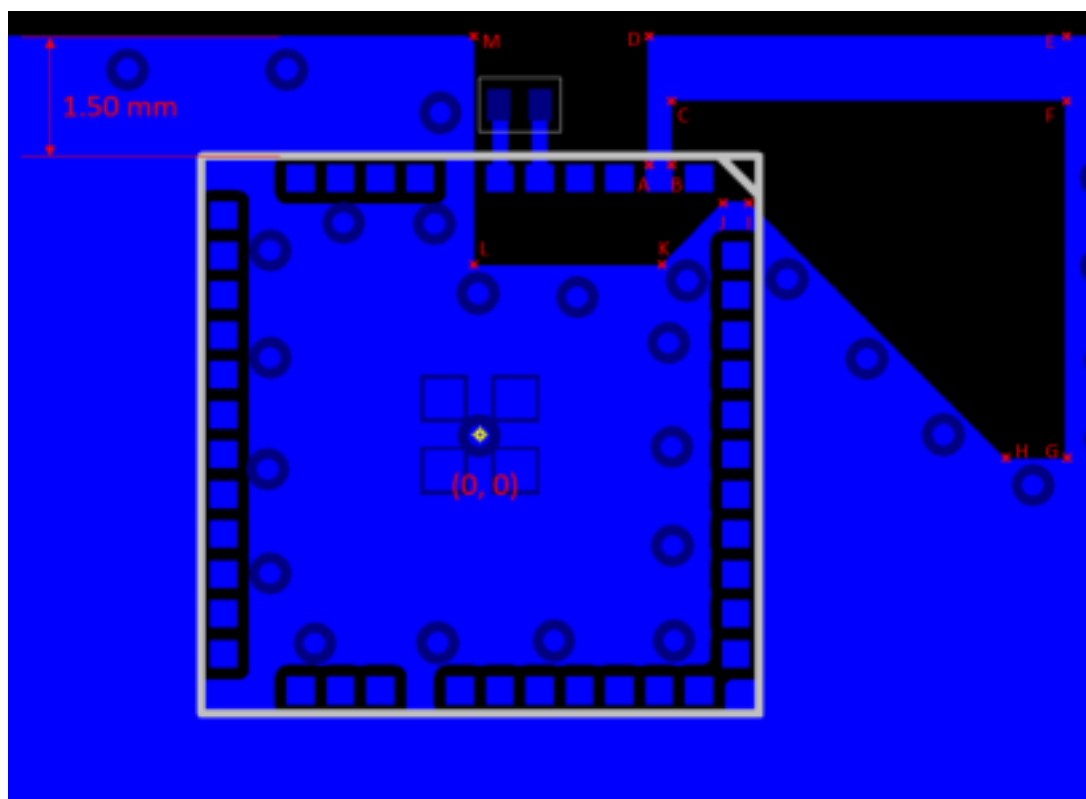

Figure 12: TOP Layer Antenna Layout with Coordinates
- Copy the exact design from Figure 12: TOP Layer Antenna Layout with Coordinates with the values for coordinates A to L given in Table 21: Antenna Polygon Coordinates, Referenced to Center of Lyra 24S.